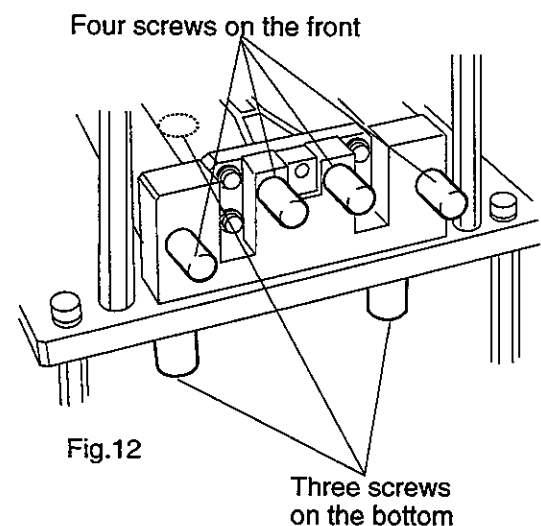

Fig.12
- Step 8. Attach the force motor to the alignment fixture with four screws on the front and three screws on the bottom (Fig 12).